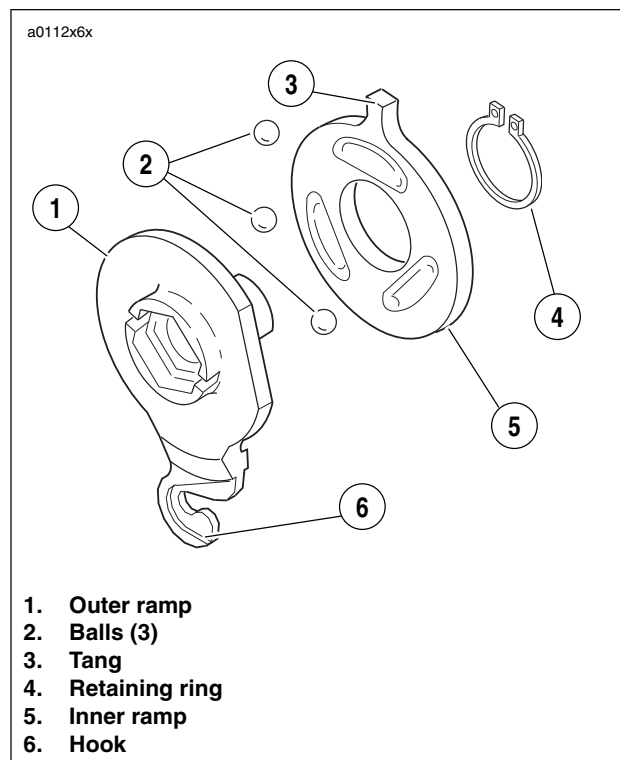

Figure 6-9. Inner & Outer Ramp
1. See Figure 6-9. Assemble inner and outer ramp.